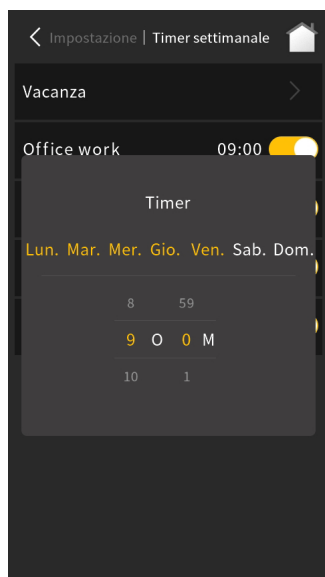

Fig. 2.11.11
- 21** - By touching the middle position of this area to pop up window as shown in Fig. 2.11.11;